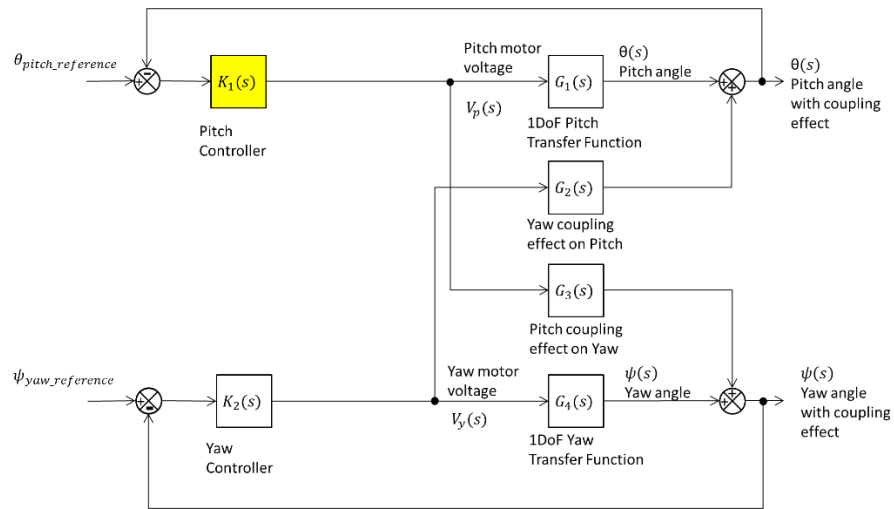

Figure 6: 2DOF helicopter control system
- 25) Implement both the pitch 1DoF model system and the given yaw controller system to control the full 2DOF helicopter, see Figure 6. Note that the controller $K_2(s)$ will be given and the controller $K_1(s)$ will be the one calculated in the previous tasks.